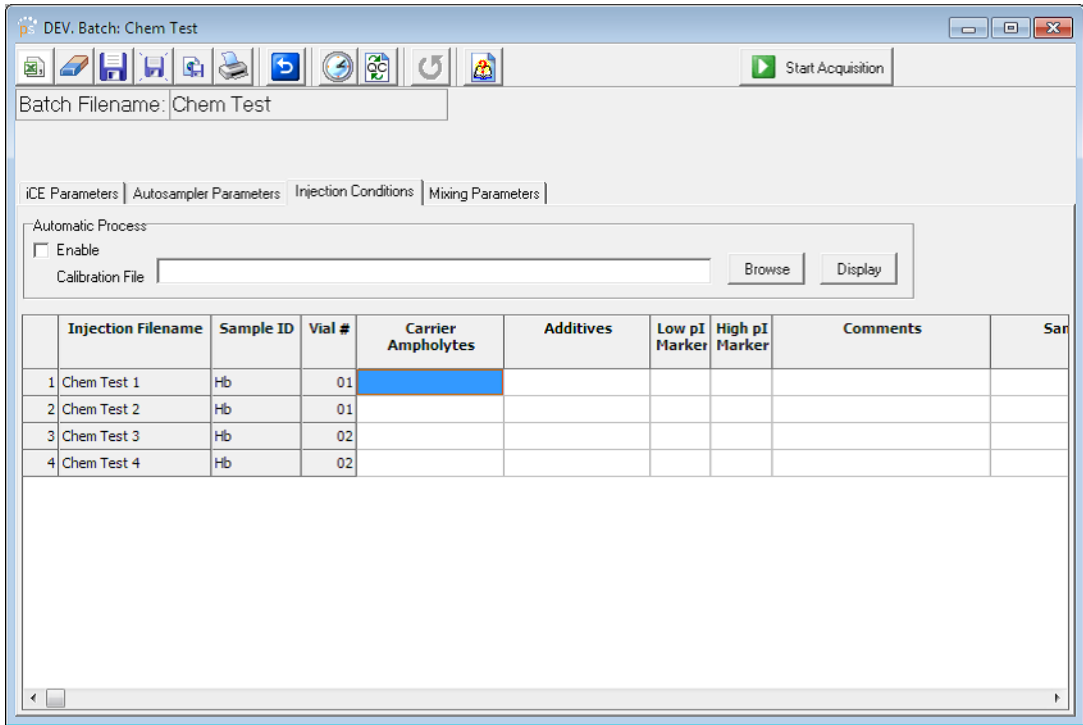

Figure 6-27: Injection Conditions tab.
22. Select the Injection Conditions tab (Figure 6-27). Use the scroll bar to view all parameters in the tab.